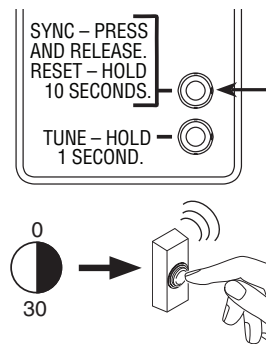

Figure 8
5. Sync the push button and chime base (see Figure 8).